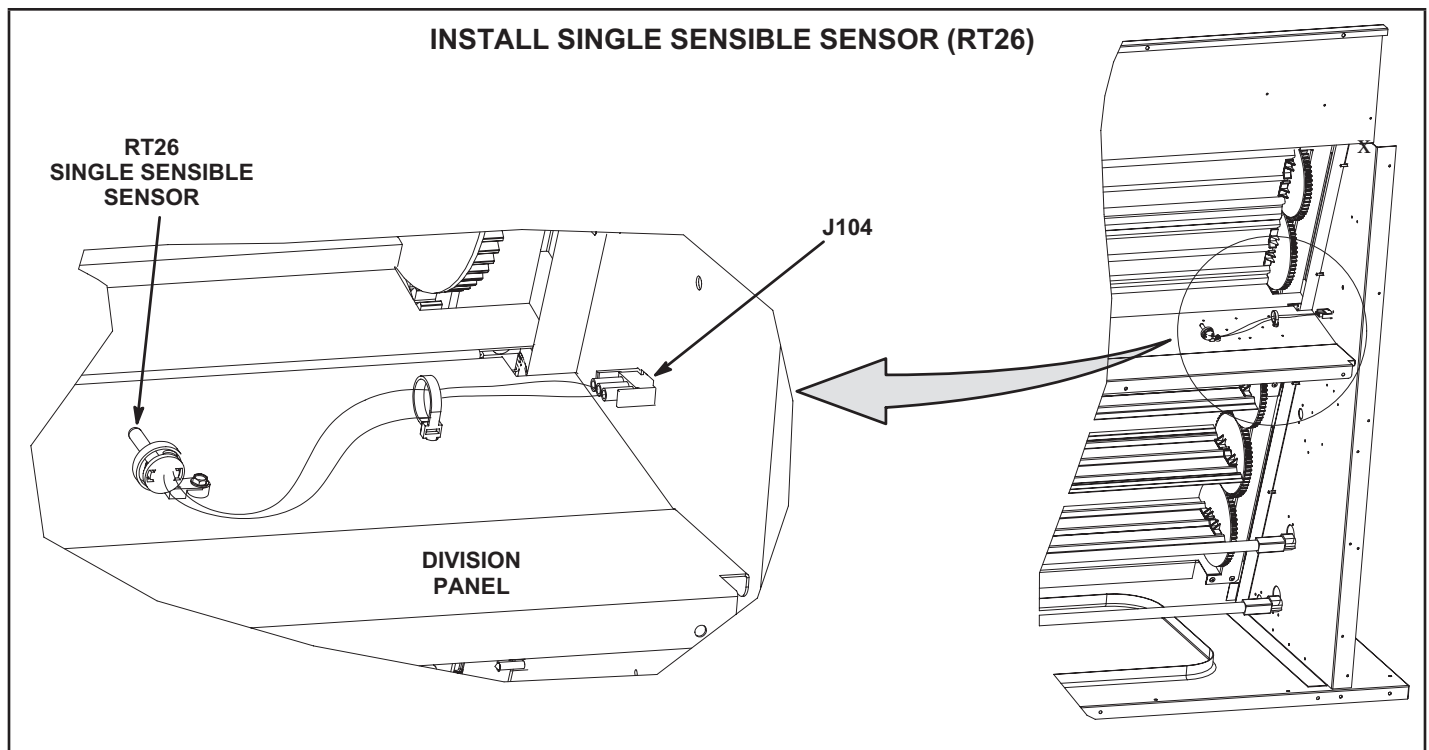
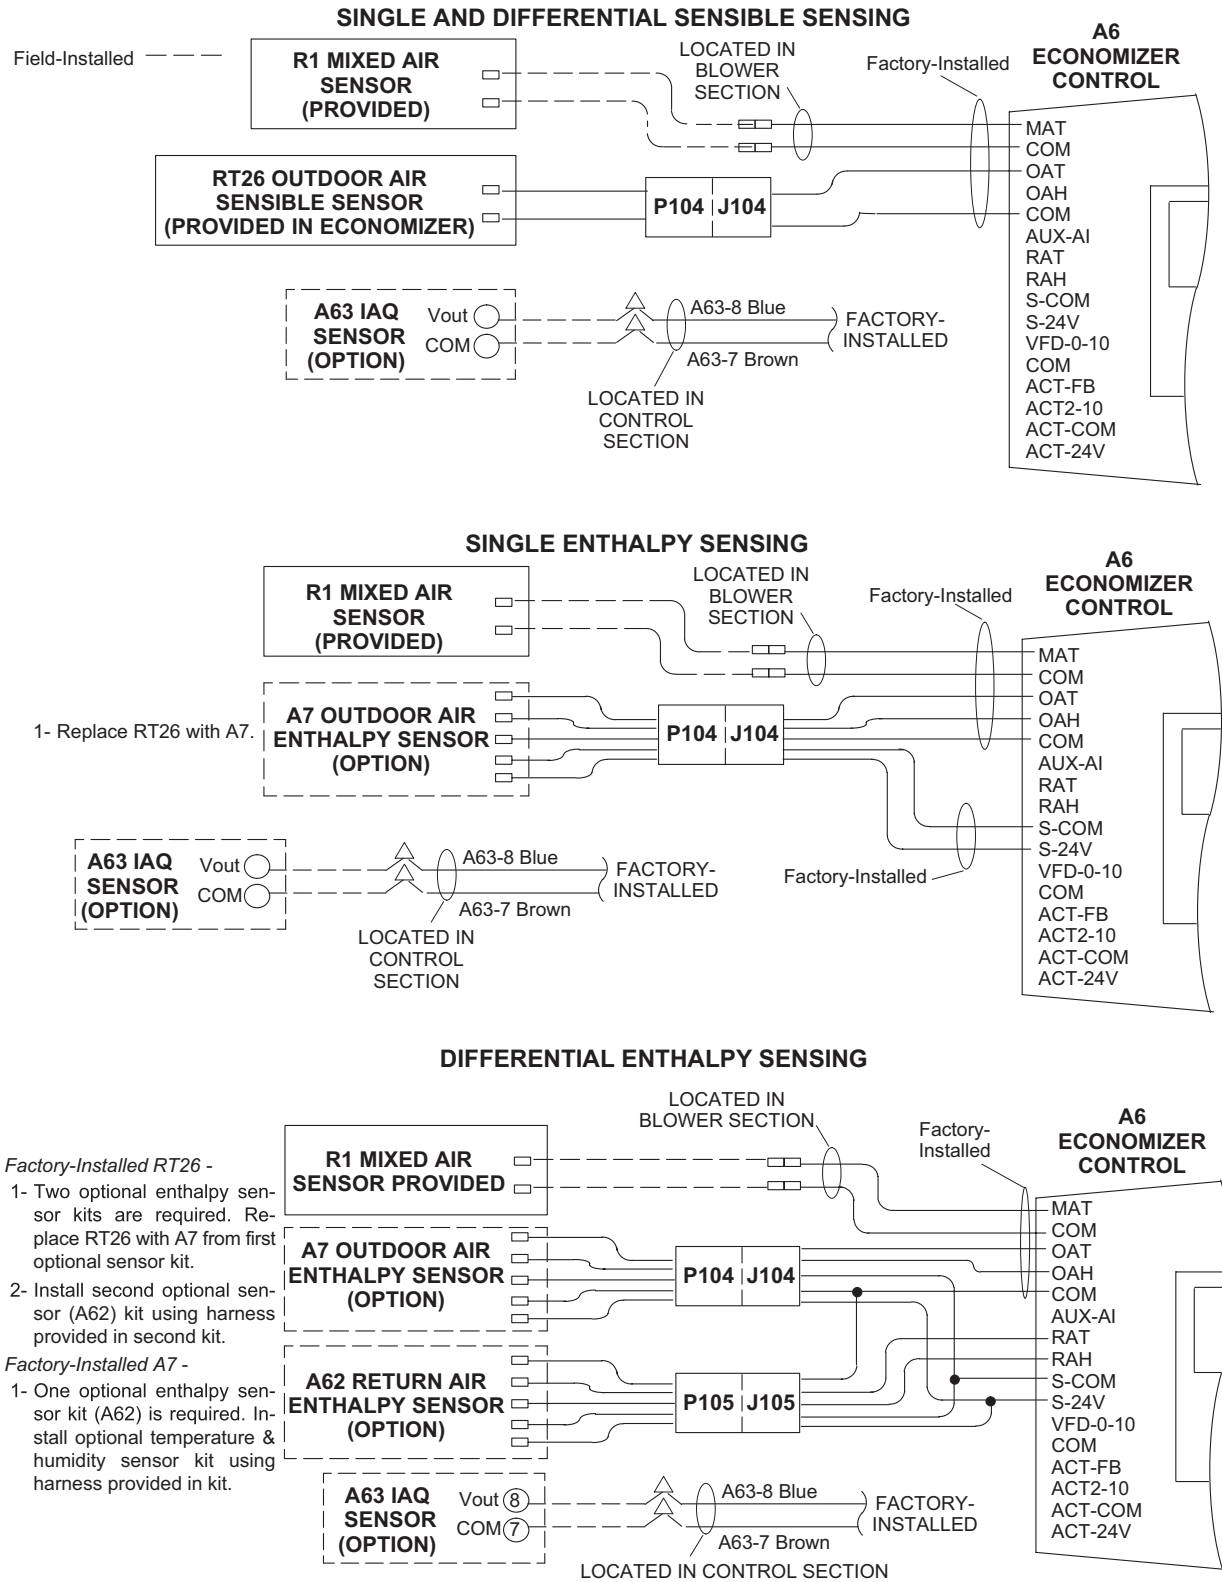

FIGURE 40
FIGURE 41
- 1 - Install RT26 sensor onto the divider panel as shown in figure 40. Use #6-32 X 7/8" TFS screws provided.
- 1 - Locate brown and white kit harness with wires labeled P104-1 & P104-2 on one end and RT26-1 & 2 on the other end. Insert the connector with wires labeled P104-1 & 2 into J104 jack previously installed on the side of the economizer. See figure 40. Connect wires on other end of P104 harness to RT26 on divider panel. See figure 41.
- 2 - Connect blue A63-8 wire to CO2 sensor Vout lead. Connect brown A63-7 wire to CO2 sensor COM lead. Secure with wire nut. See figure 41.